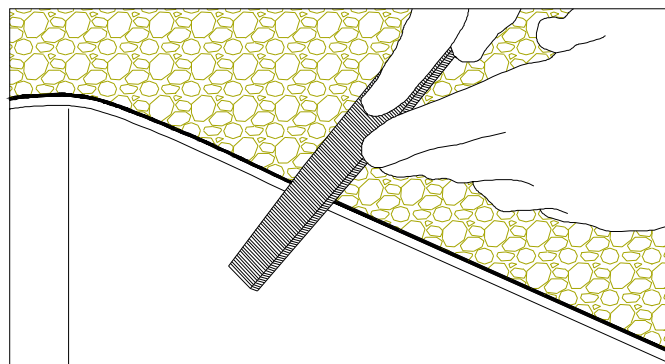

Figure 8D
- Lightly file at a  $45^\circ$  angle. (FIG. 8D)